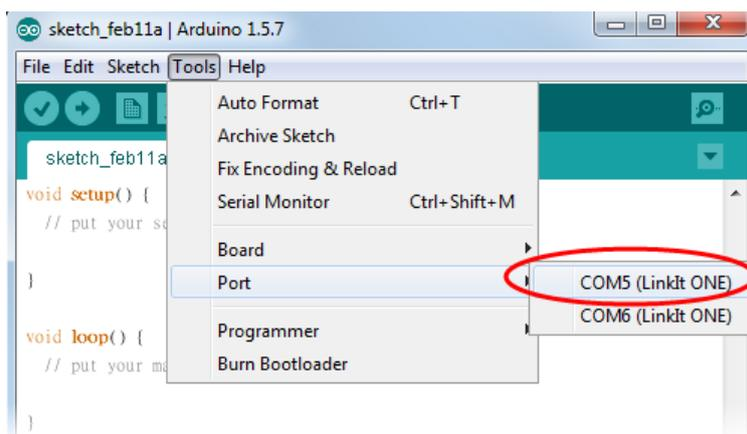

Figure 10 Setting the LinkIt ONE development board's port number in Arduino IDE
- 7) In Arduino IDE on the **Tools** menu, point to **Port**. Click the **COMx** item that matches the LinkIt ONE development board's port, as shown in Figure 10.